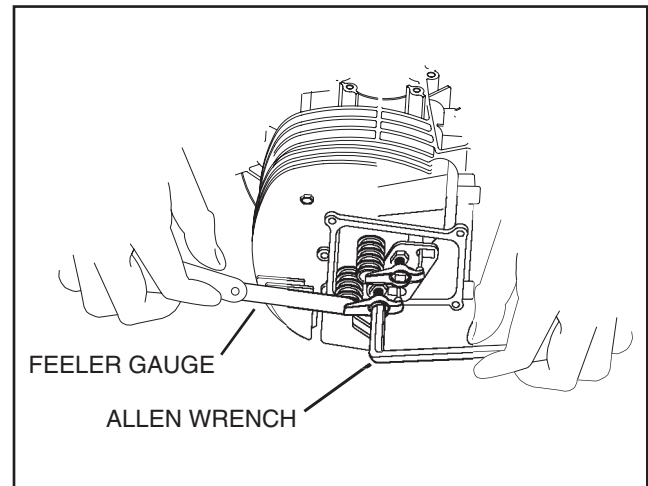

Figure 14. Adjusting Valve Clearance
1. Loosen the rocker arm jam nut. Turn the pivot ball stud while checking the clearance between the rocker arm and valve stem with a feeler gauge (see Figure 14).